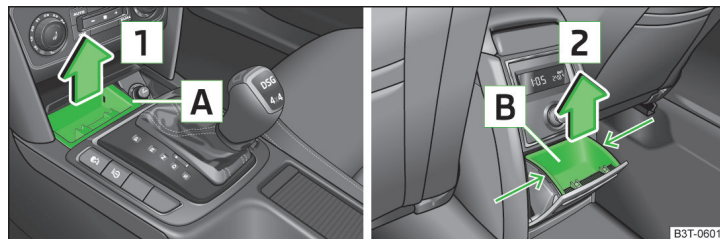

Fig. 85 Centre console: Ashtray at the front/rear
- Grasp the ashtray insert in the area **A** » Fig. 85 and remove it in the direction of the arrow **1**.
➤ Grasp the ashtray insert **B** » Fig. 85 in the area marked with the arrows and remove it in the direction of the arrow **Z**.